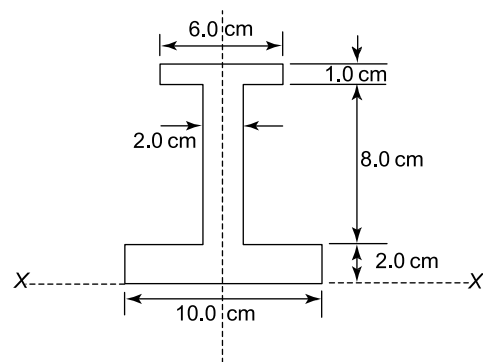

Figure RT4.3
4. A beam of length 4 m is simply supported at its right extremity and at 1 m from the left extremity. If the beam is loaded with a downward load of 2 kN at its left extremity and with another downward load of 10 kN at a distance of 1 m from its right extremity, sketch its bending moment and shearing force diagrams. (7)
5. (a) Find the second moment of area and radius of gyration about the axis XX for the beam section shown in Figure RT4.3.